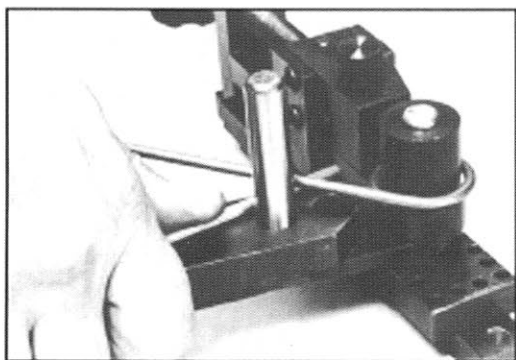

Figure 6
2. For loops and coils, you must lift the material slightly on the third bend to allow it to rise above the already bent material as shown in Figure 6.